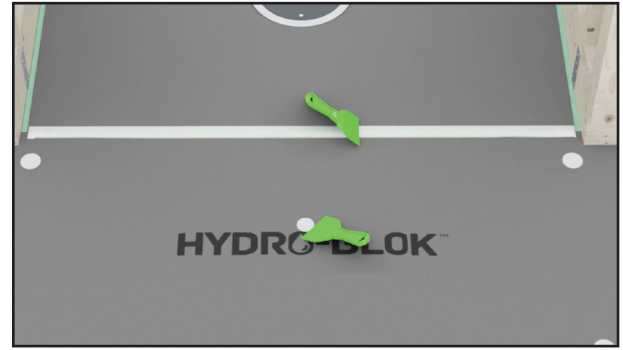

Fig. 22
12. Perform a final check of all joints and screws/washers to ensure they are completely covered in HYDRO-BLOK Joint Sealant and there is at least 1" of Joint Sealant on either side of any joint or seam as per Fig. 22.